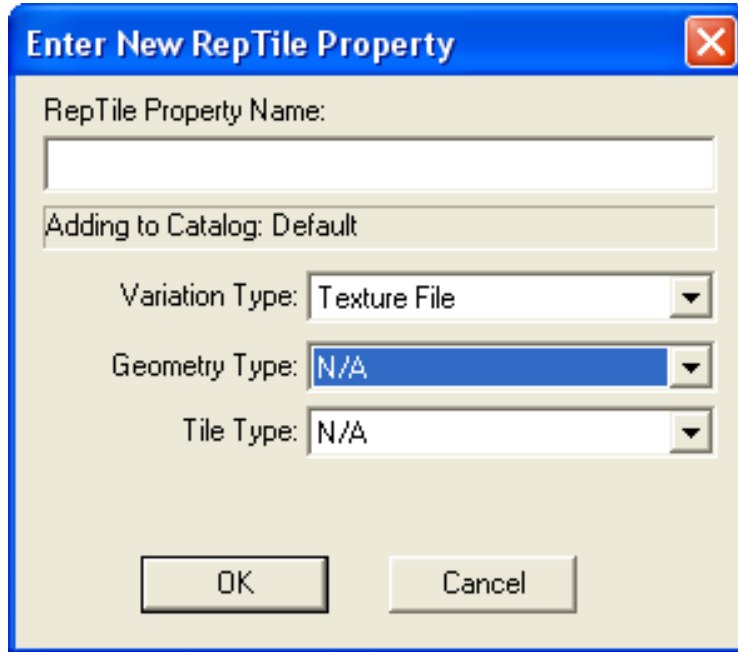

FIGURE 3.69 - Enter new RepTile property for a Variation Type of Texture File.
- While in the Catalog of interest, select **Add Property...**, which will display the Enter New RepTile Property dialog (see Figure 3.69).